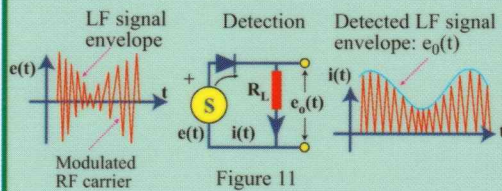

Figure 11
- Demodulator or a detector:** This circuit is used to recover an envelope waveform (of low frequency) which modulates the amplitude of a high frequency waveform as illustrated (Fig. 11). This process is called **detection** (of a signal modulated on a high frequency carrier) in radio systems.